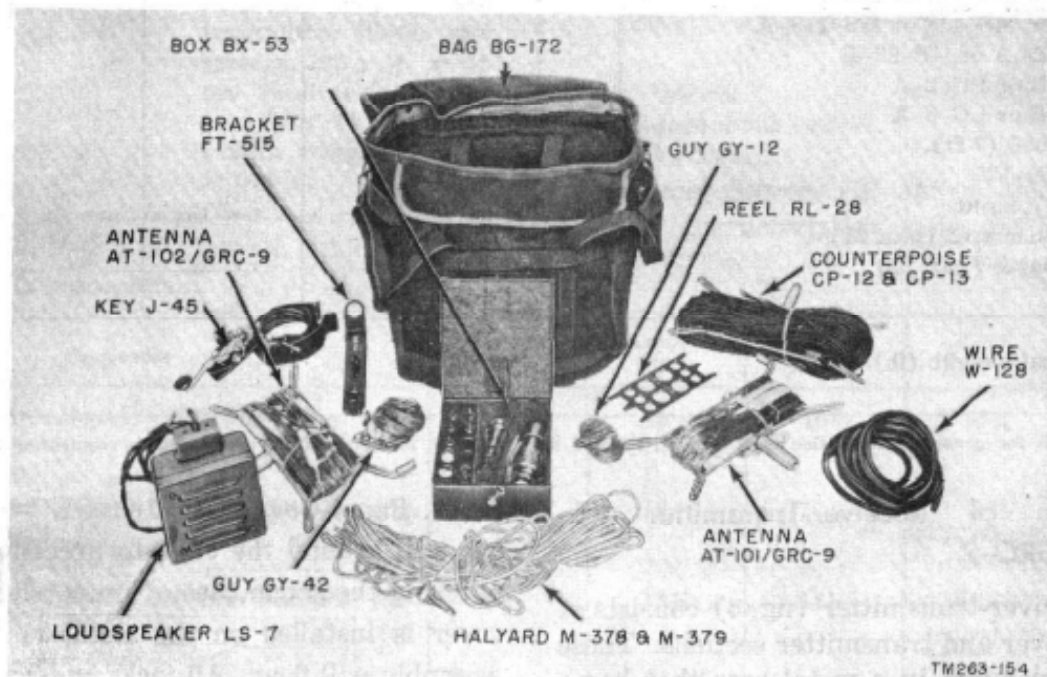

Figure 5. Bag BG-172 and contents.
a. *Loudspeaker LS-7* (fig. 5). This speaker is of the permanent magnet type with a 4-inch cone. A self-contained output transformer matches loads of 4,000-ohms impedance.
The key (fig. 5) with all the important parts listed is shown in figure 159.